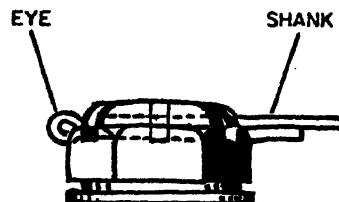

FIGURE 7
*The eye of the cotter pin should be well down IN the castellation. See figure 7.